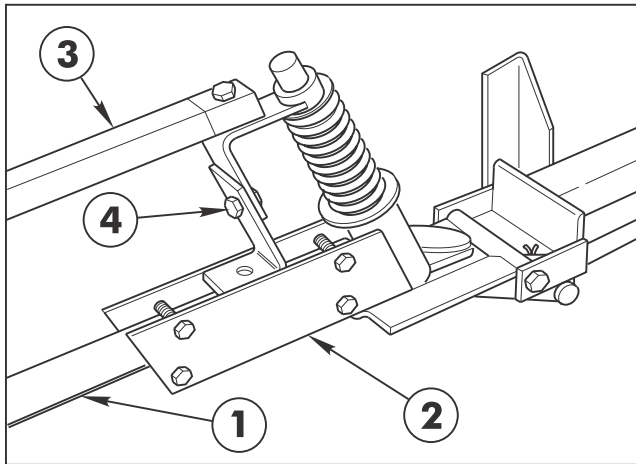

FIG. 16
22. Insert the plugged end of an Extension Boom Pipe into the Pivot Assembly and secure with four (4) 1/4" x 1-1/4" cap screws and lock nuts. (See FIG. 16) Repeat on the opposite side to assemble the other Extension Boom.
23. Attach the LH Boom Support ASM to the Pivot ASM, using a 5/16" x 1-1/2" cap screw and nut. (See FIG. 16 & 17)